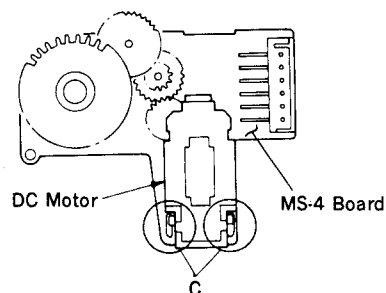

Fig. 3
- (1) Unsolder the two terminals at the C points as shown in figure 3 and remove the DC Motor from the MS-4 Board. (fig. 3)